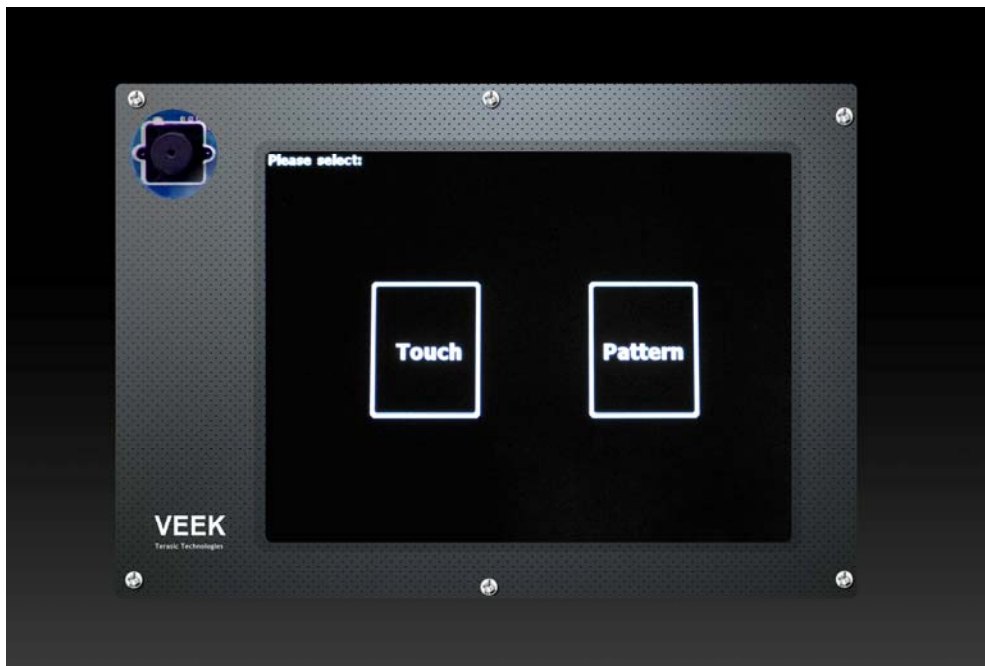

Figure 4-4 Main interface of the VEEK Starter demonstration
- From on the touch panel, tap any icon of the main interface and start the experience, as shown in Figure 4-4, Figure 4-5 and Figure 4-6